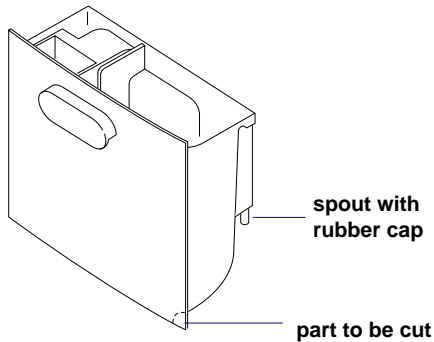

Fig. 1
- 1) On the tank there is a thin part easy to cut to allow the hose to pass through (fig. 1).